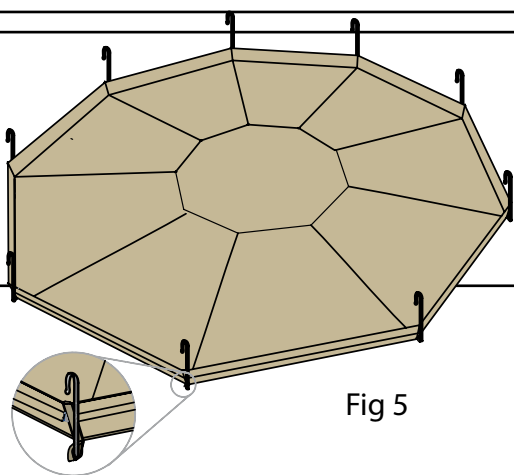

Fig 5
4. Stretch the Gome floor and place the stakes through the ground grommets (Fig.4 #6) halfway in the ground, in a clockwise or counterclockwise direction, until the Gome Floor is fully stretched (Fig 5).